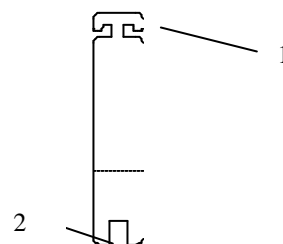

Fig. 3b
- ??The tool (fig. 3b.2, size 30) for the height adjustment of the setting feet of the cryostat is packed together with the accessories of the cryostat (separate carton on the foot rest of the cryostat).